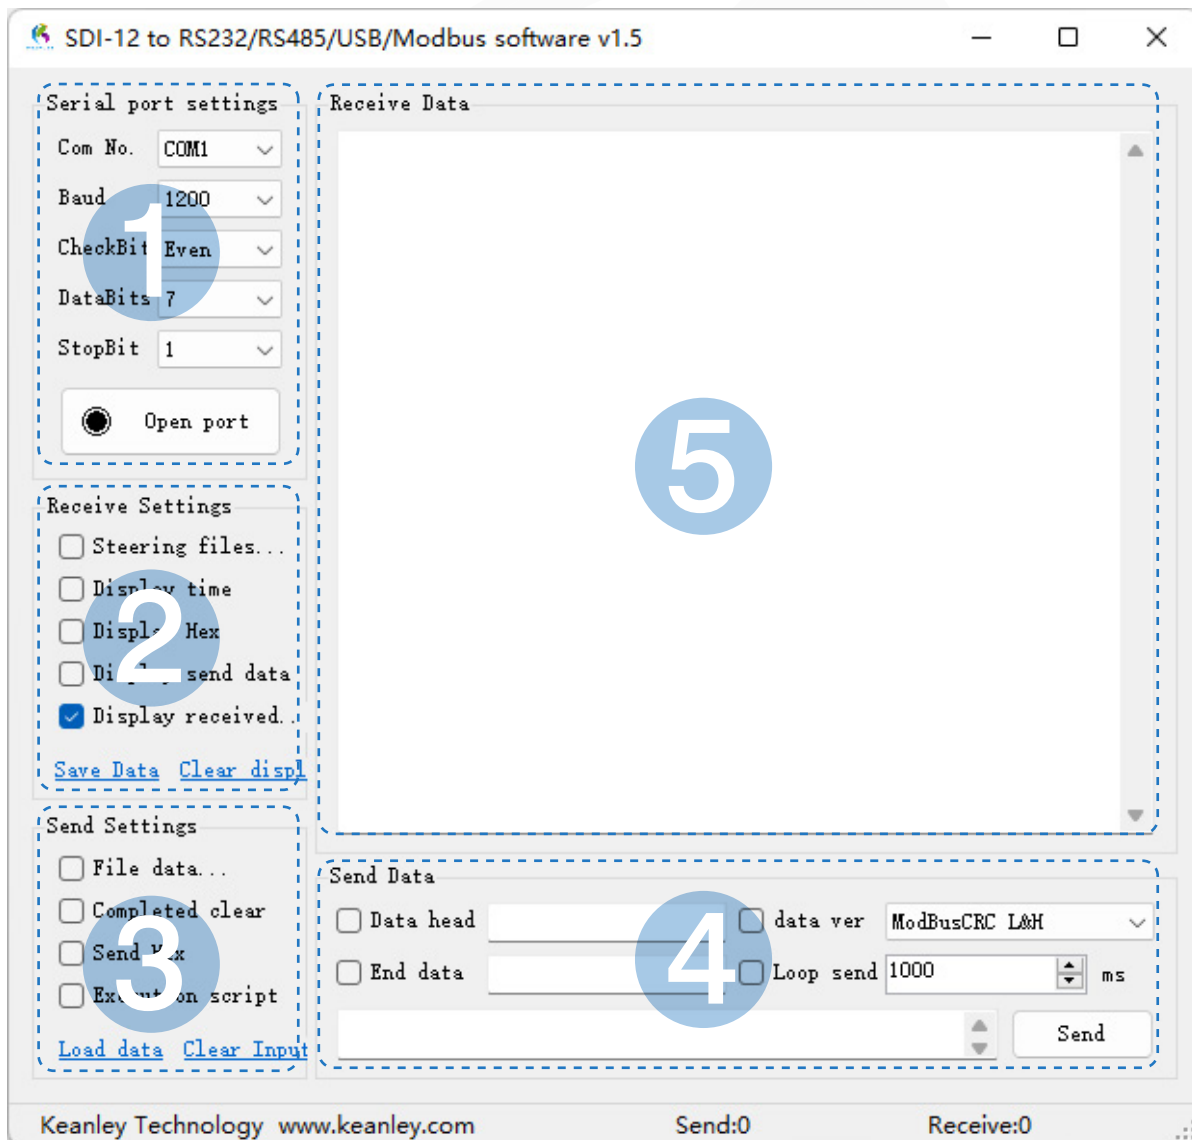

Figure 5. Software initial interface
- Double click to open the downloaded file "SDI-12 Interface conversion.exe" as shown in Figure 5 below.
As shown in Figure 5, the interface conversion software is divided into five regions.